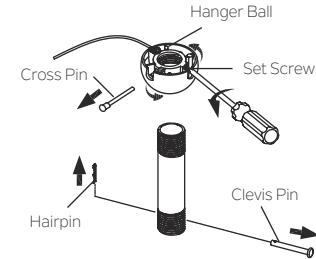

Fig. 6
**Step 2.** Remove the hairpin and clevis pin from the downrod assembly, retain for later use. Remove the hanger ball from the downrod assembly by loosening set screw, removing the cross pin, and sliding ball off the rod. (Fig. 6)